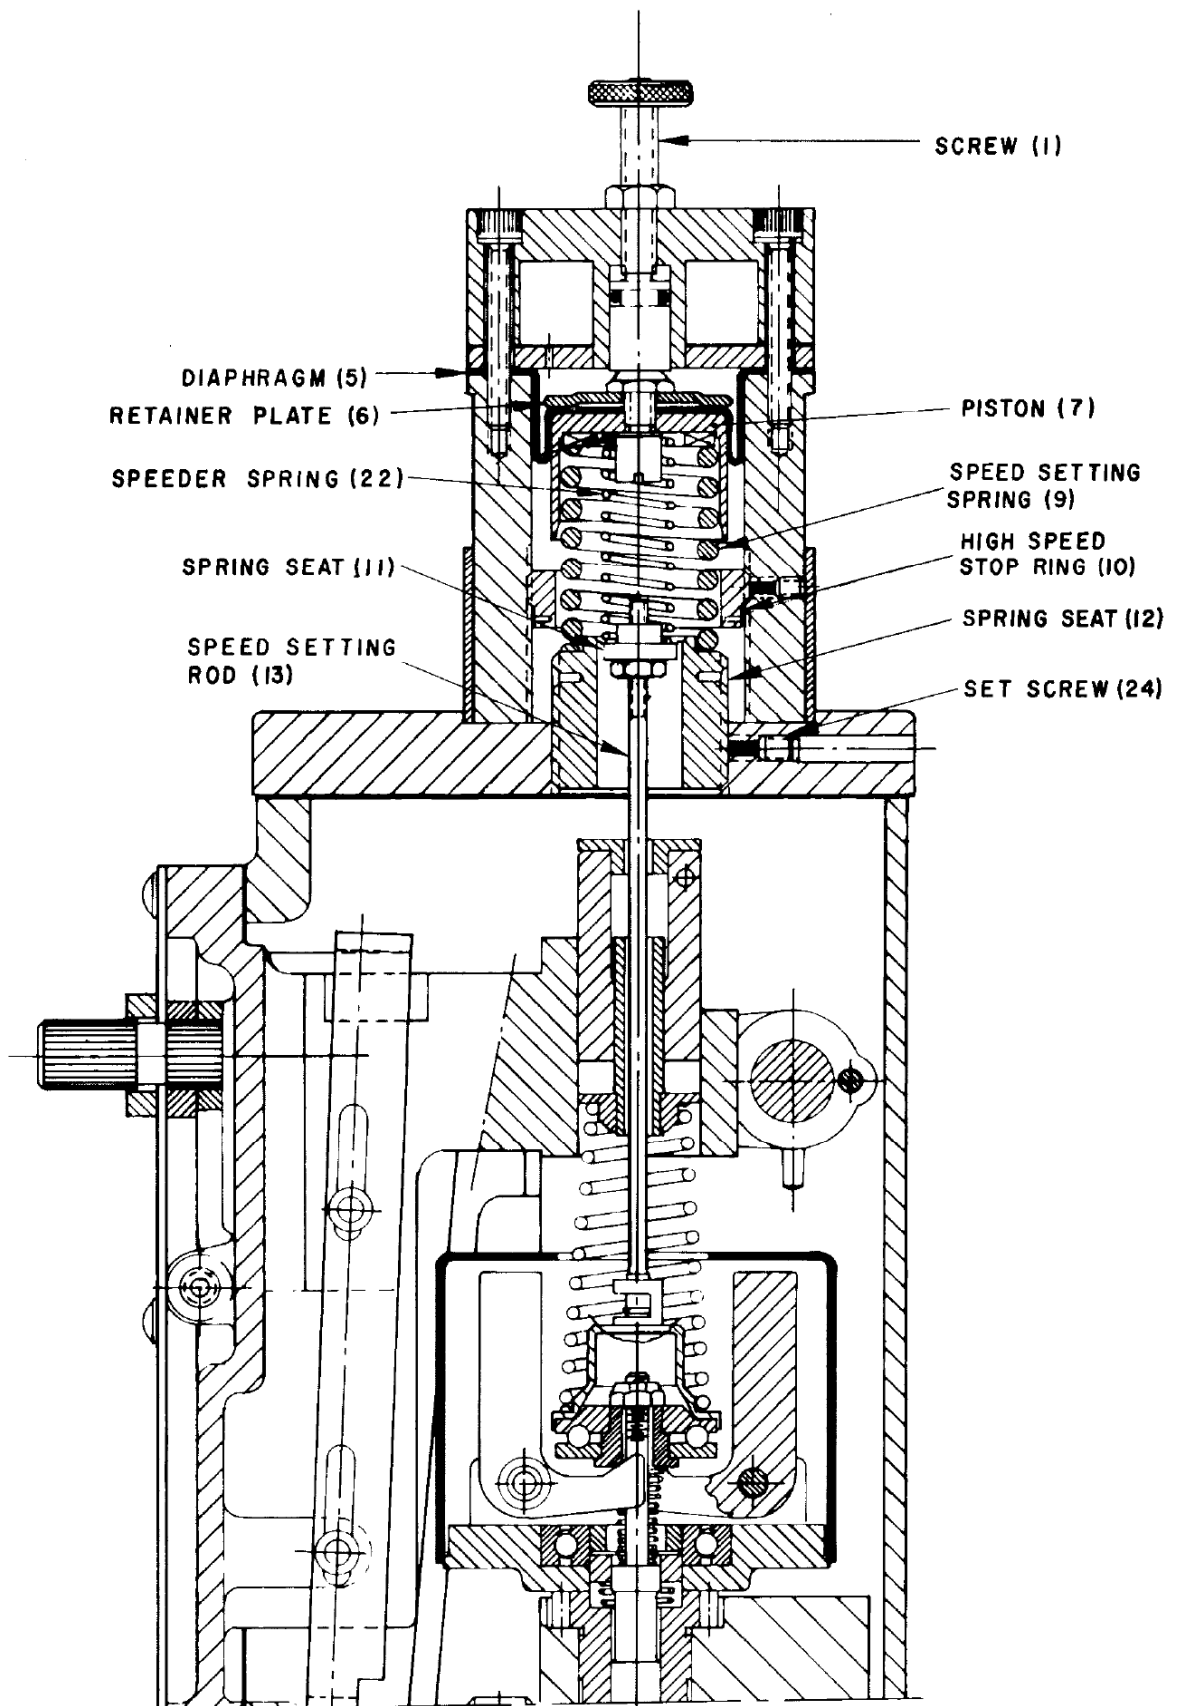

Figure 2. Pneumatic Speed Setting Assembly
The pneumatic speed setting assembly consists essentially of a diaphragm, housing, oil reservoir, adjusting screws, and a long rod which is connected to the pilot valve plunger (Figure 2). When the control pressure is zero, the governor runs at minimum speed.
When the pneumatic speed setting assembly is disassembled during overhaul of the governor, take care to avoid damaging the diaphragm. If cracks have begun to form in the diaphragm, it should be replaced. Note that the set screws (24) must be loosened before spring seat (12) can be removed. (The numbers in parentheses correspond to the identifying numbers in Figure 2.) Before reassembling diaphragm (5), coat all surfaces lightly with Molykote Z lubricant (Alpha-Molykote Corp., Stamford, Connecticut, USA.) or equivalent. Be careful to avoid wrinkling or twisting the diaphragm during assembly, or premature failures may result. Lubricate O-ring with petrolatum to prevent cutting during assembly.